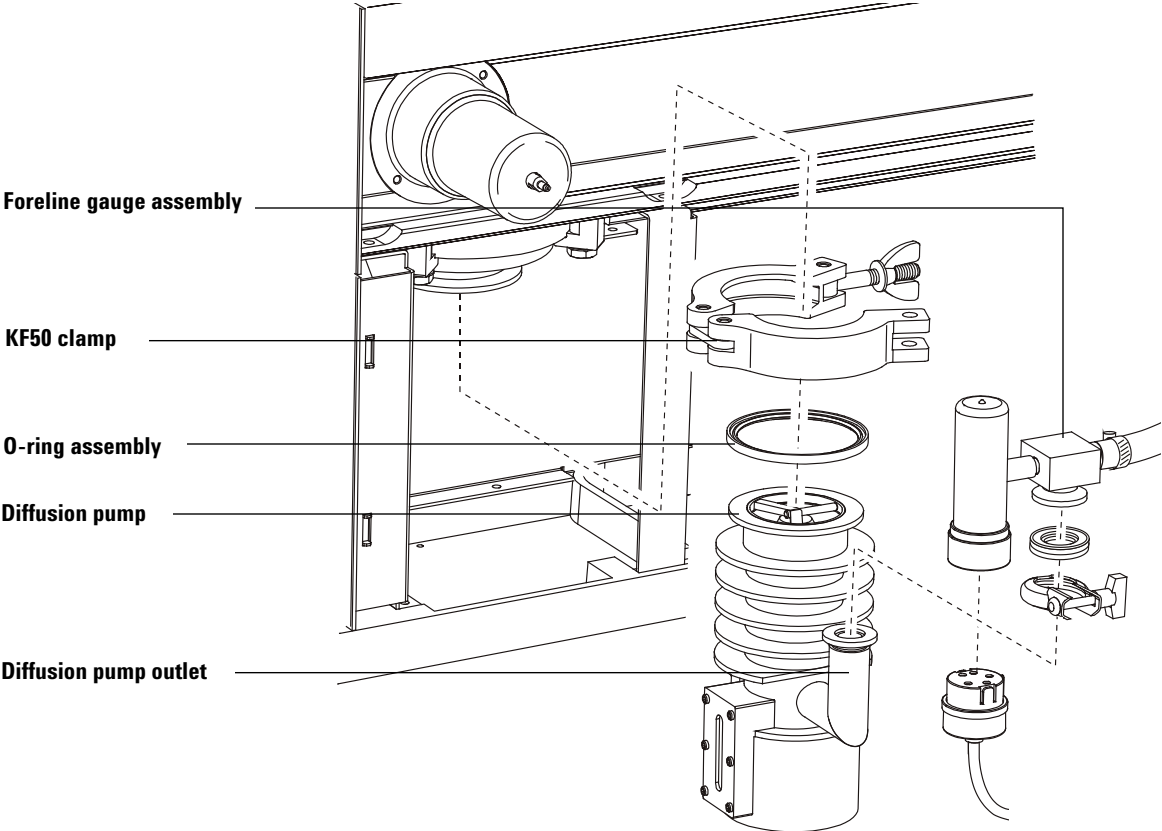

Figure 14 Installing the diffusion pump
- 3** Install the O-ring assembly on the diffusion pump. See Figure 14 on page 115.